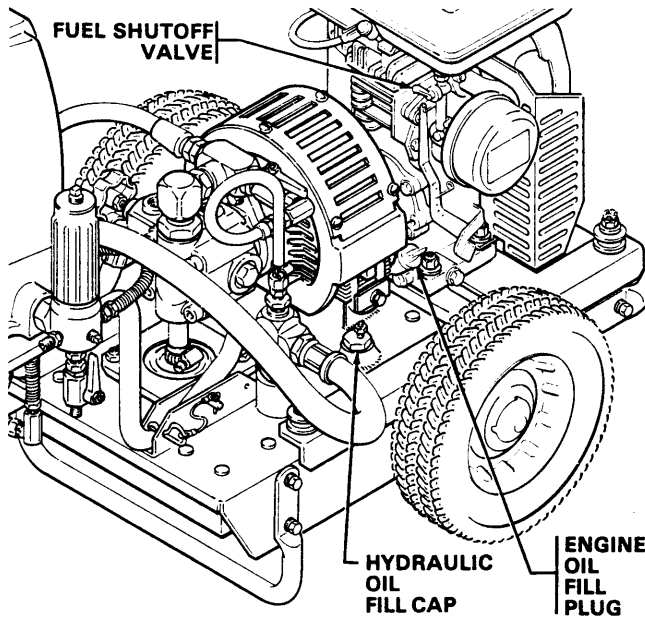

Fig 3
4. **Fill the Packing Nut/Wet Cup (141) 1/4 full with Graco Throat Seal Liquid (TSL), supplied.**
- a. Unscrew the oil fill cap. See Fig 3. The dipstick is attached to the cap. Wipe off the dipstick and set it in the hole, but do not thread it in place. The oil should be up to the full line on the dipstick.
- a. Unscrew the oil fill plug. See Fig 3 and 4. The dipstick is attached to the plug.
- a. Close the fuel shutoff valve. See Fig 3.